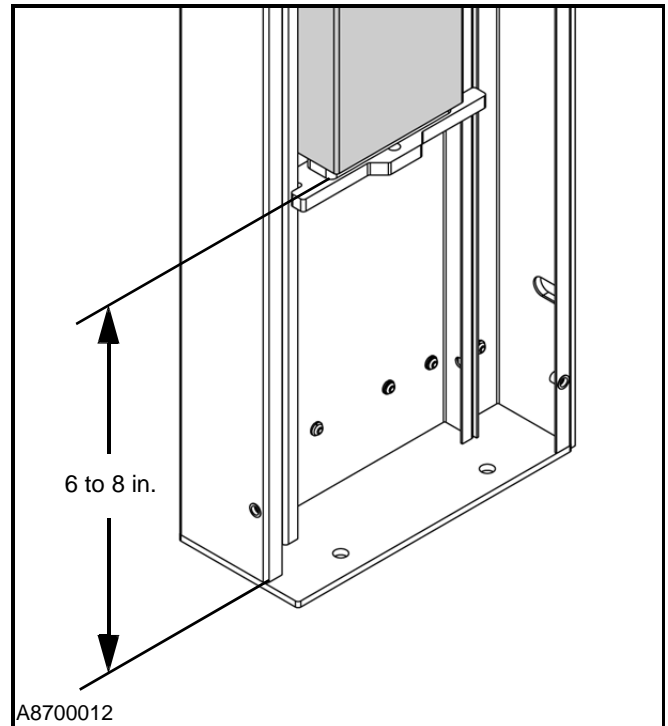

Figure 42
NOTE: The 6 to 8 in. dimension shown in Figure 42 is adequate for most Turbo-Seal Insulated doors. However, for some very wide or short doors, the counterweight may have to be adjusted closer to the bottom of the side column. Also, make sure the counterweight guides are behind the conduit guides located in the side column.
4. With the door panel in the fully open position, the counterweights should be positioned 6- to 8-in. above the bottom of the side column. (See Figure 42)
5. To adjust the counterweights, securely block the counterweights in the position indicated in Figure 42.